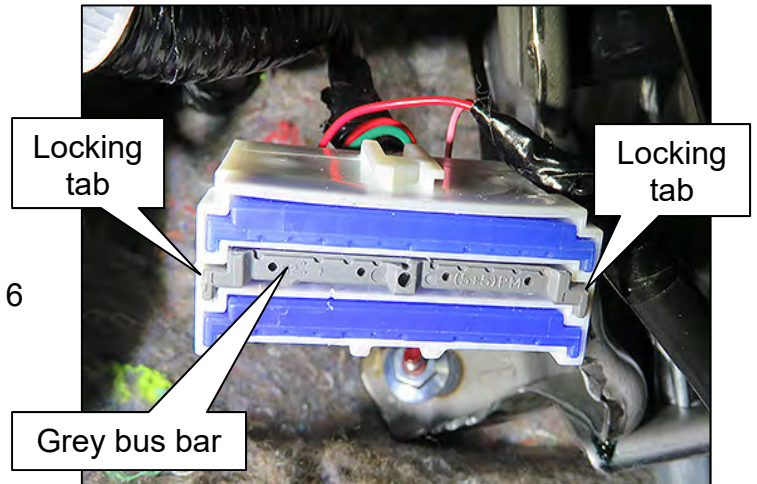
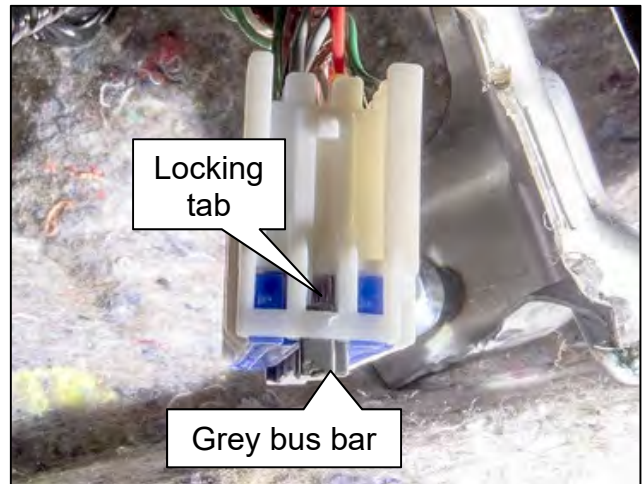

Figure 6
Figure 7
8. Release two (2) locking tabs, one on each side of the grey bus bar (Figure 6 and Figure 7).